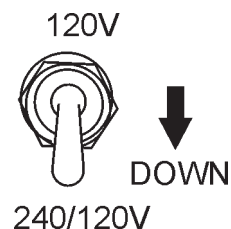

Figure 18. Full Power Switch (Down)
- Place** the **full power switch** (Figure 18) in the **"240/120V"** (Down) position.